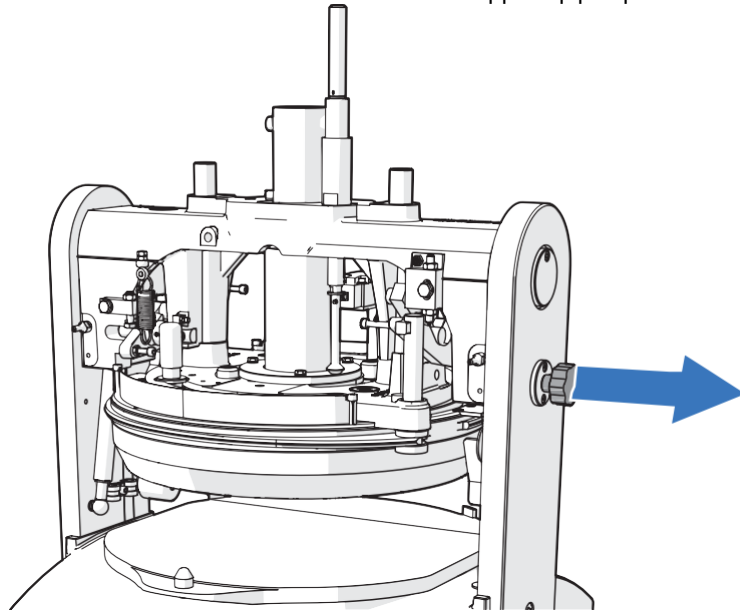

Figure 10 Pull the locking pin out
3. Pull the locking pin out. See Figure 10.